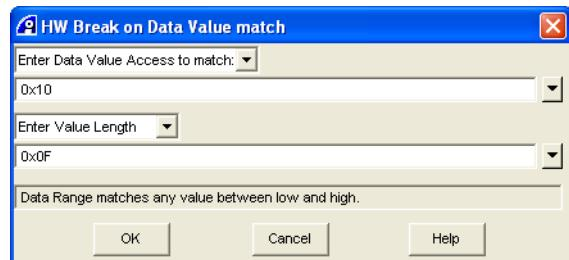

Figure 11-38 HW Break on Data Value match dialog box
3. Select **Debug → Breakpoints → Hardware → HW Break on Data Value match...** from the Code window main menu. The HW Break on Data Value match dialog box is displayed. Figure 11-38 shows an example: